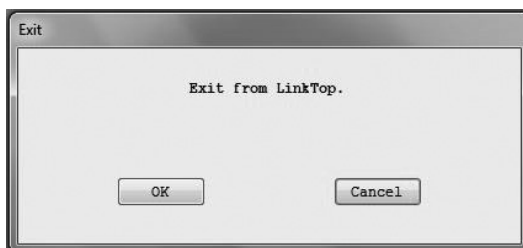

Fig. 3-17
- (2) The message box (Fig. 3-17) will be displayed. To exit LinkTop, click "OK" button. Click "OK" to confirm and the application software window will disappear from the desktop. To abort the terminating process, click on "Cancel" button.